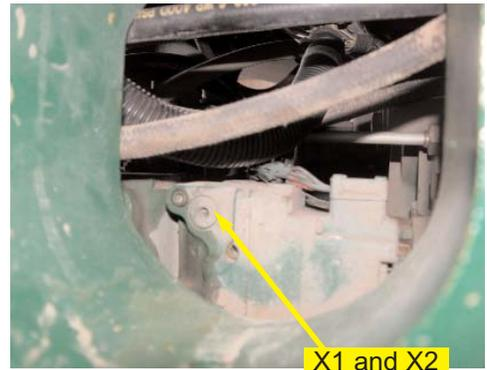

Figure 5a. Location of steering output ports.
- a. Locate the **X1** and **X2** ports on the right side of hydrostatic steering pump. The ports can be located through the access hole in the right side of the tractor frame. (Figure 5a.)